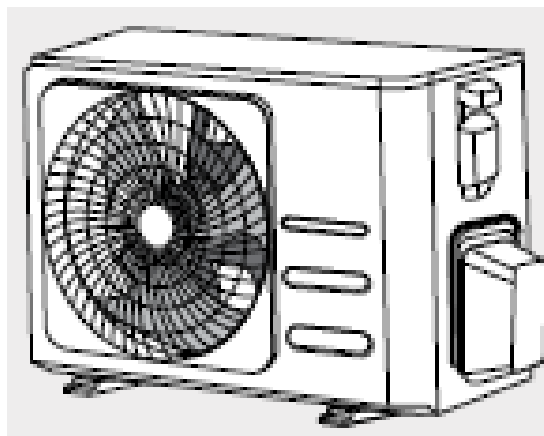

Fig. 6 —Install the Outdoor Unit
- A location which provides appropriate clearances (see Fig. 6).
- Allow sufficient space for airflow and service of the unit. See Fig. 6 — on page 12 for the required minimum distances between the unit or walls.